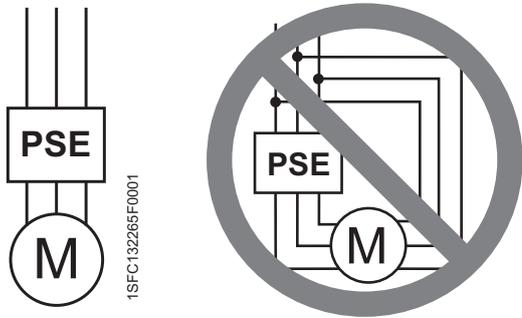

Figure 5.2: ABB PSE Softstarter must be connected In Line only.
Since Softstarters PSE18...PSE370 has control in two phases, the connection must be done In Line only, in accordance with the circuit diagrams in figure 5.2 and in Chapter 11.
*Softstarters PSE18...PSE370 must not be connected Inside Delta since this will cause damage to the equipment and there is a risk of death or serious injury. Figure 5.2.*